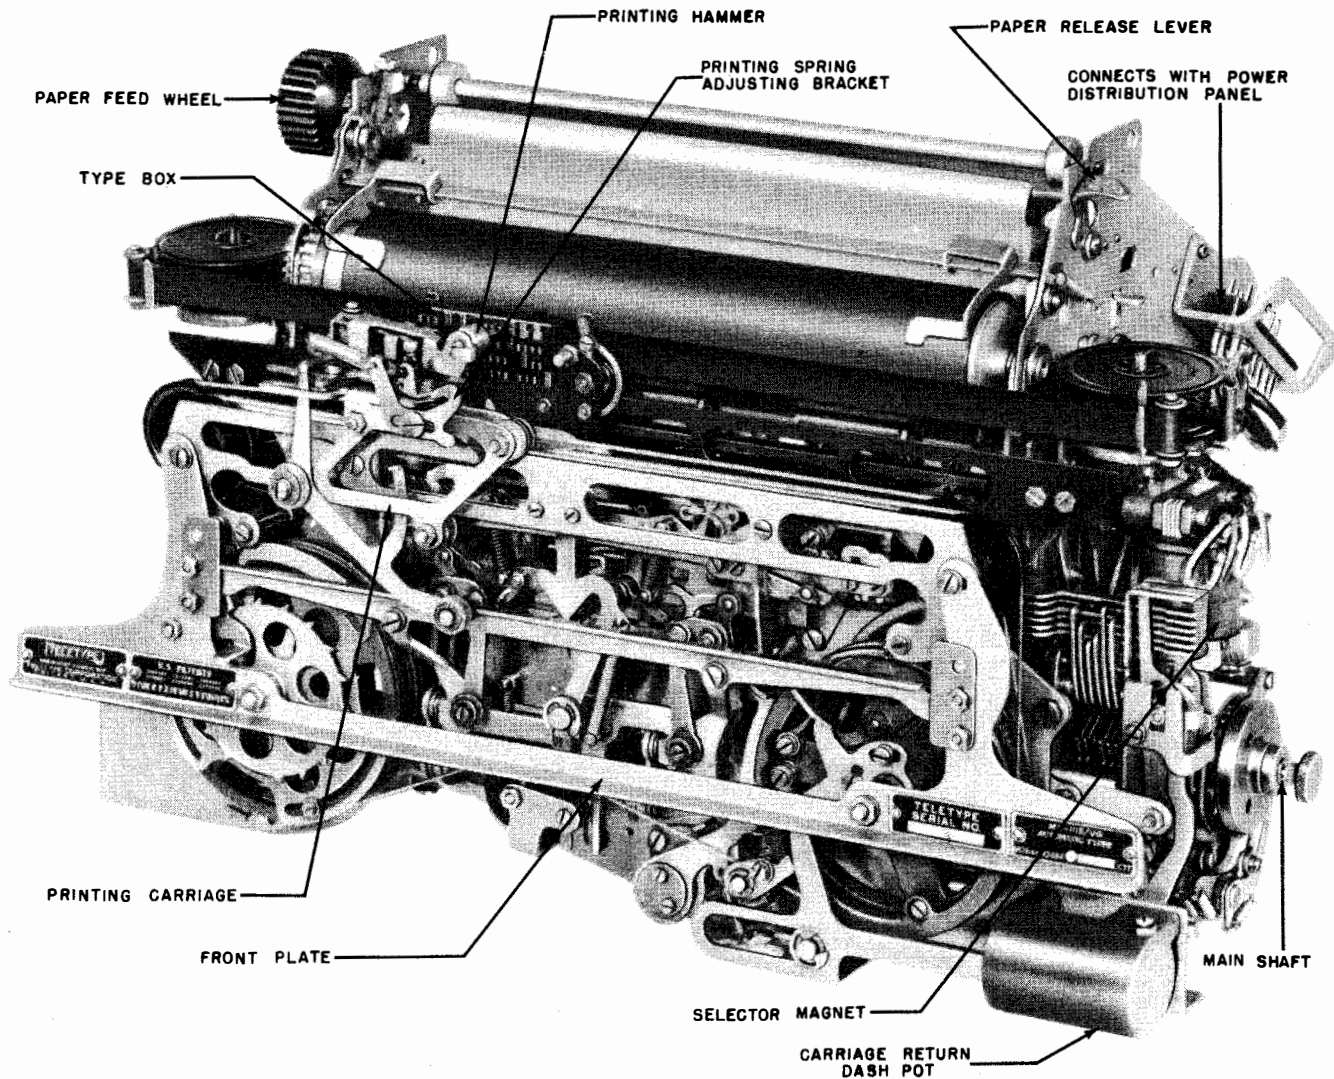

Figure 1-4. Automatic Typewriter MX-1115/UG, Front View
b. AUTOMATIC TYPER MX-1115/UG. (See figures 1-4 and 1-5.)
(1) The Automatic Typer incorporates the necessary electrical and mechanical features for translating the code signals into mechanical action in order to